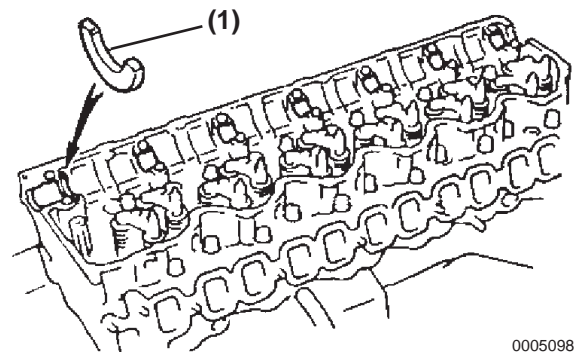

Figure 5-69
1. Install the thrust plate (**Figure 5-69, (1)**).